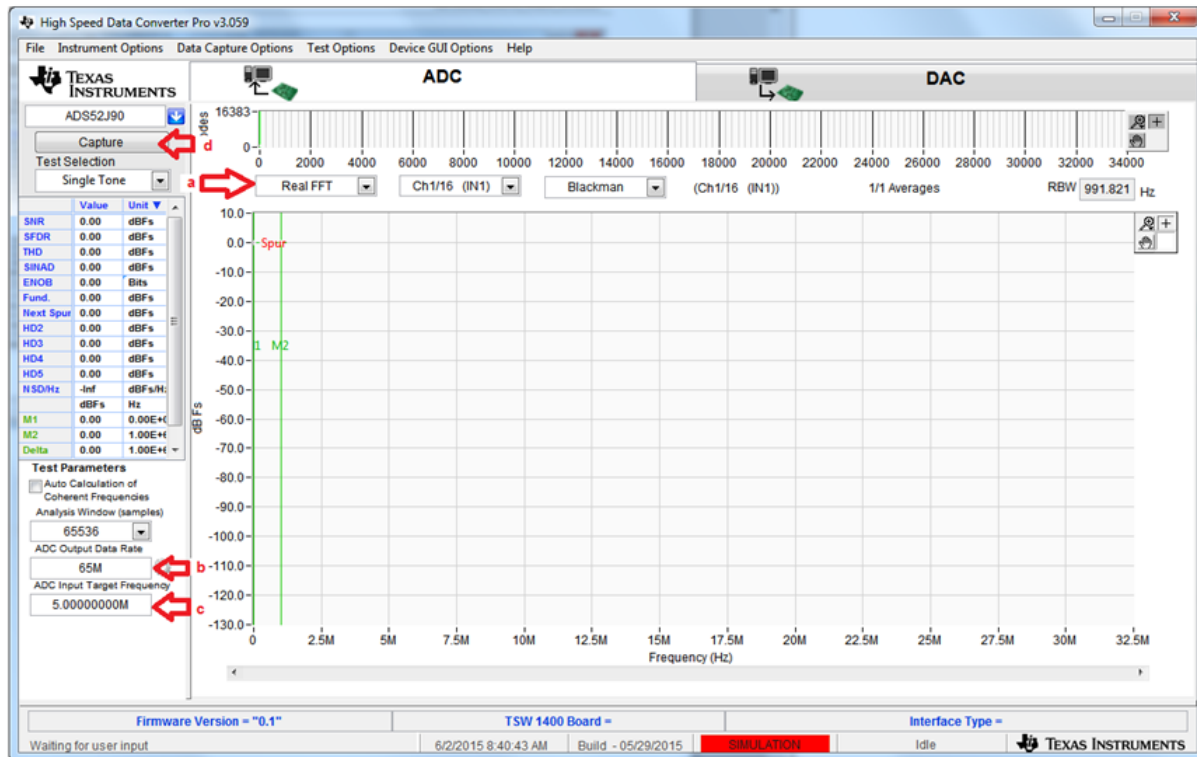

Figure 23. ADS52J90 16-Channel SINE Capture (b)
6. Return to HSDCpro GUI and perform the following (as illustrated in Figure 23):